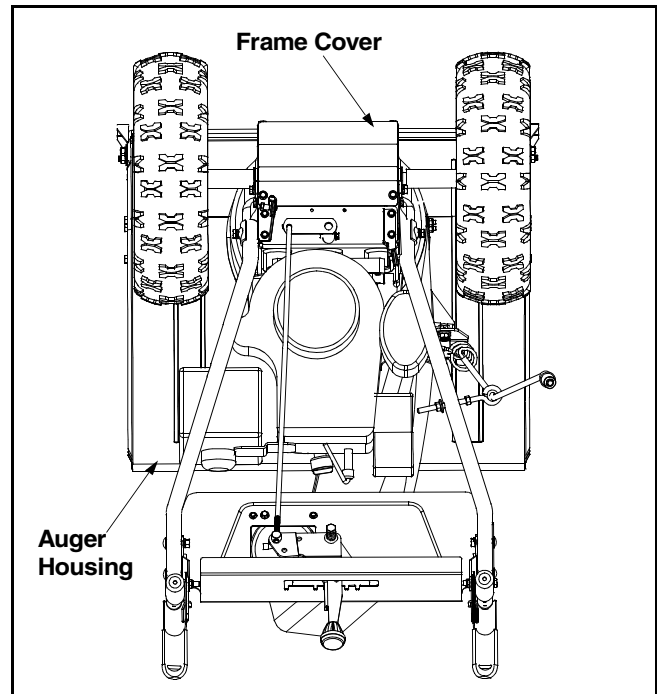

Figure 17
- Tip the snow thrower so that it rests on the auger housing. See Figure 17.